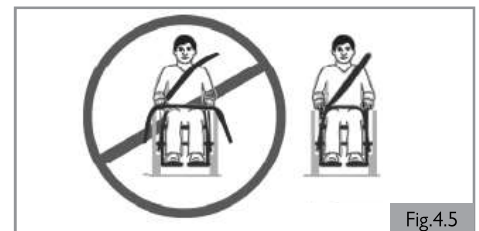

Fig.4.5
20. Restraint belts must be adjusted as tightly as possible consistent with user comfort, and should not constrict breathing (Fig 4.5).